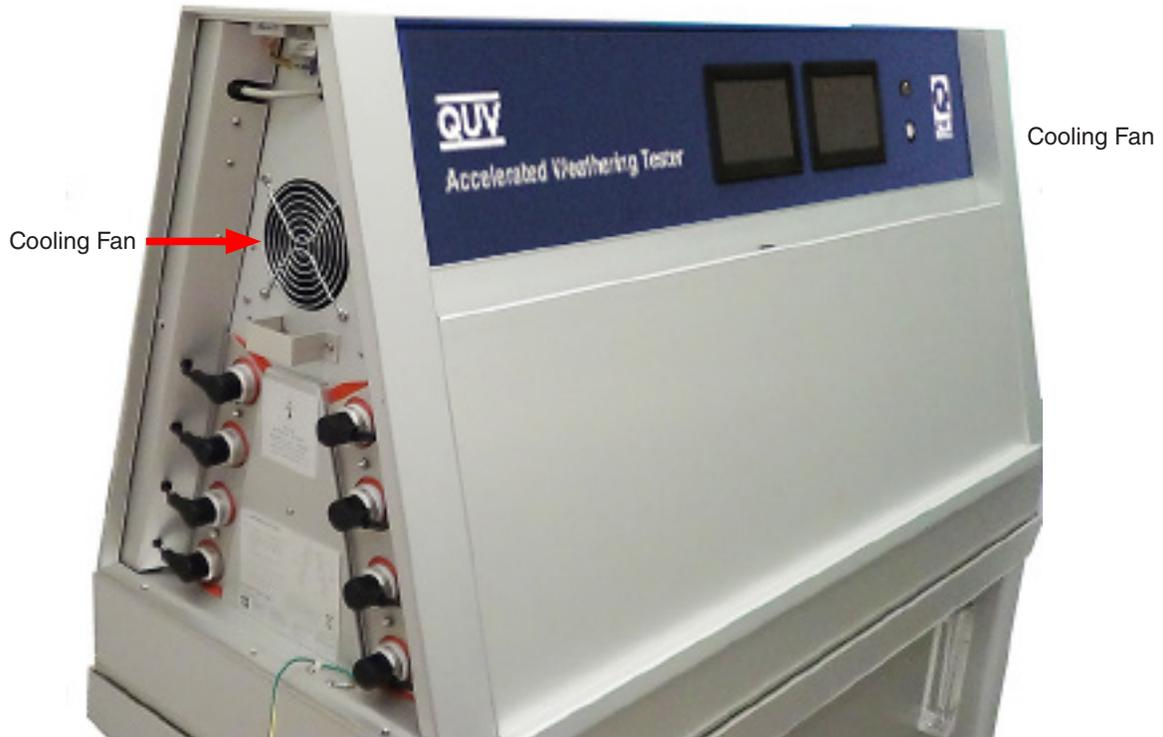

Figure 8.3: QUV left end cover removed showing cooling fan. Identical fan located at right end.
- Fans at each end of the control housing cool the ends of the lamps for maximum efficiency (Figure 8.3).